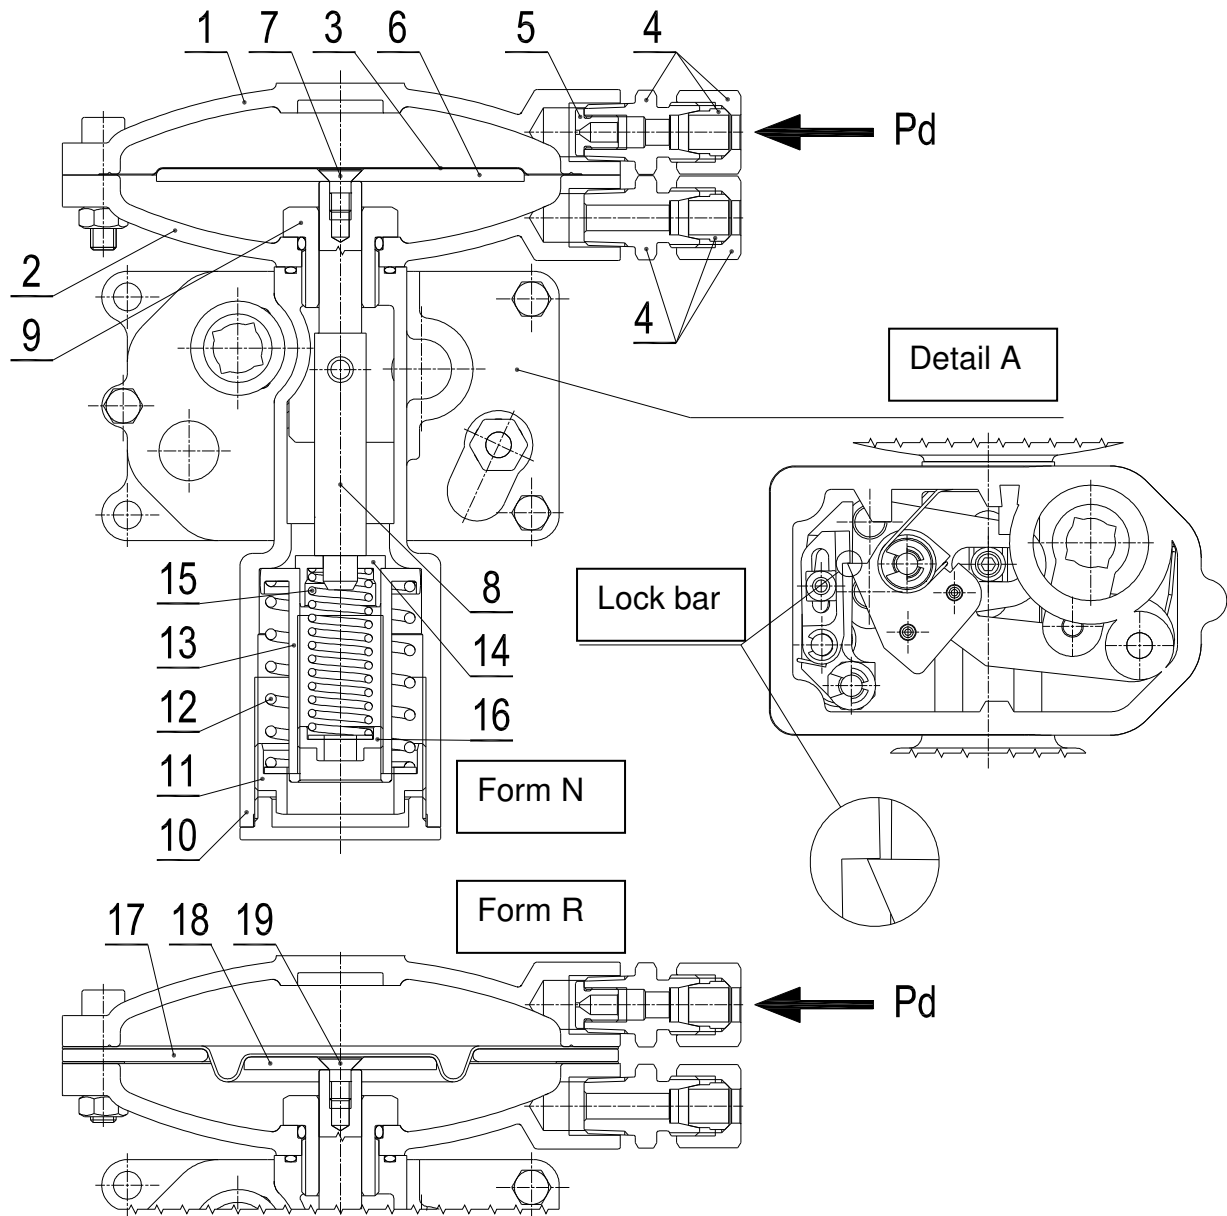
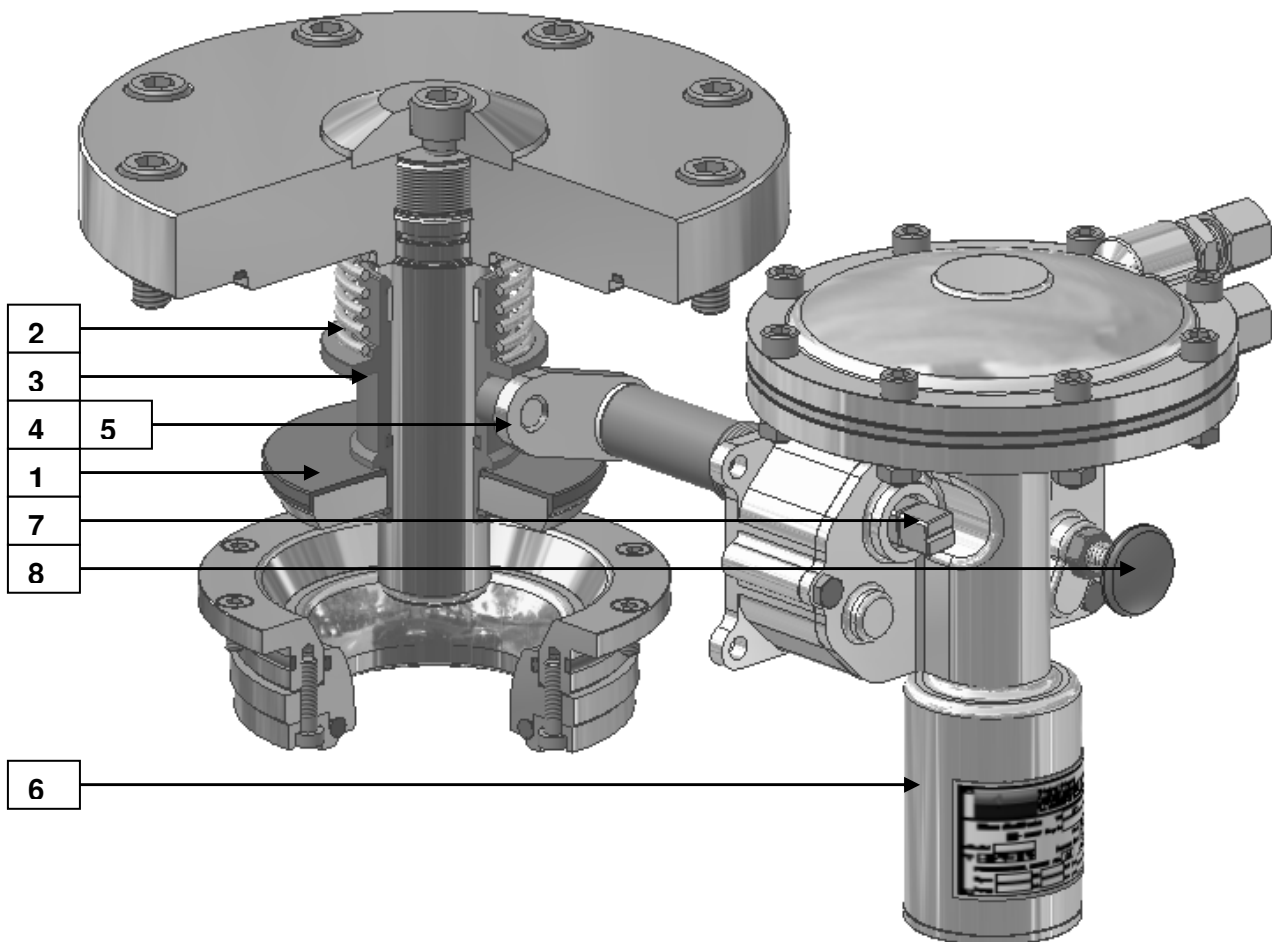

Figure 3.
Figure 4.
In the cylindrical spring house (7) there are two springs to adjust the upper and lower safety shut-off valve values. The sectional drawing of the device is shown by Figure 3.
There is outlet pressure (pd) over the space of the diaphragm. The force originated on the on diaphragm disc shows downward. Opposite there is the force of the springs (12,15) originated from the pretension, showing upward vertically. If the pressure (pd) changes, the valve rod moves in vertical direction. The releasing load transmission on Figure 3. (The detail) can be seen. If pressure higher or lower than the permitted one, then the displacing valve rod (8) releases the latching, the roller holding the locking device (Figure 4, 4) discharges. The closing spring closes the closing element to the valve seat.
Figure 4. demonstrates the safety shut-off valve and the lever in opened position. Figure 4. – with the help of the axonometric image –it makes more understandable the pervious operation description: